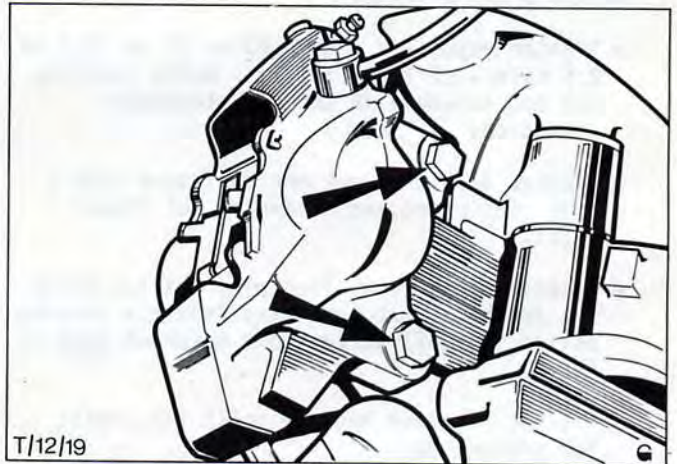

Fig.31. Caliper securing bolts to spindle carrier.
4. Prise back lock tabs, remove two caliper retaining bolts and detach caliper assembly from spindle carrier, Fig.31.